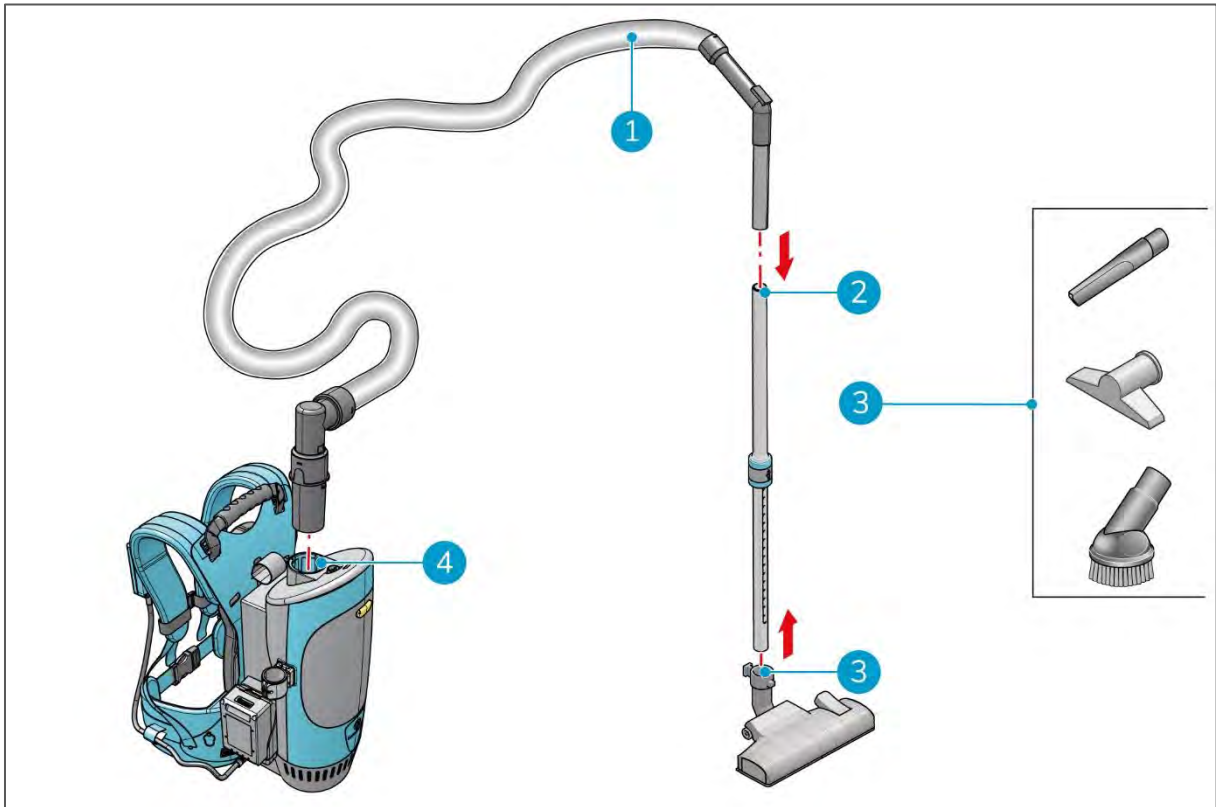

Figure 7
1. Insert the hose (Figure 7, pos 1) into the body of the i-move 2.5B® (Figure 7, pos 4) and into the wand (Figure 7, pos 2).
2. Attach the desired tool (Figure 7, pos 3) onto the narrow end of the wand.